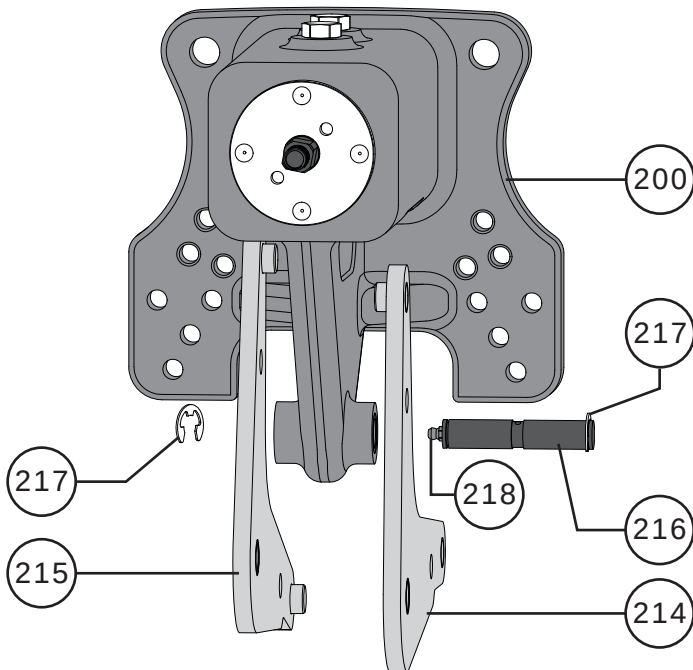

Figure 55 SMHW Lever Removal
- 2 Remove the retaining ring (Key 217) and drive out the lever pivot pin (Key 216). Remove the levers (Keys 214 & 215). Refer to Figure 55.